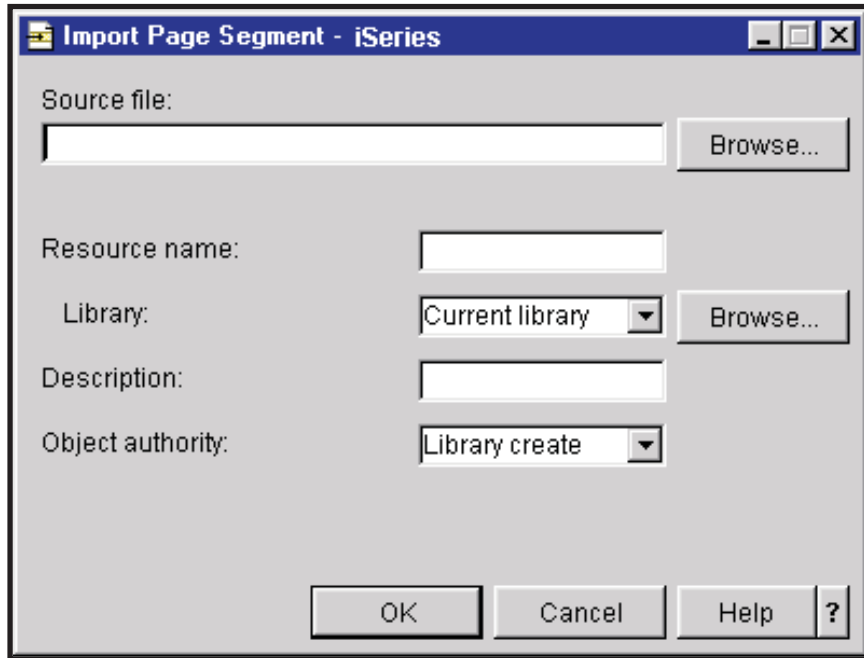

Figure 185. Import Page Segment Window
5. Right-click the type of resource you want to store on the OS/400, and select **Import**. A window like the one shown in Figure 185 on page 274 opens, depending on the type of resource you selected.